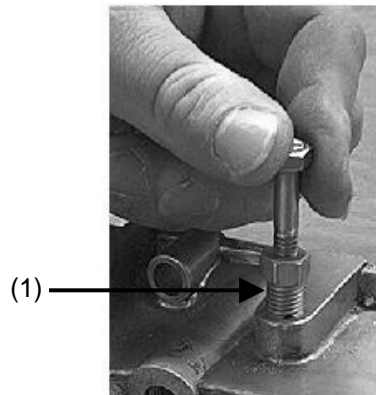

Figure 4-60. Gardsert™ flush with workpiece.
3. Turn hex nut onto cap screw (use a grade 8), follow by threading Gardsert™ (1) (Fig. 4-60) (Gardsert™ is listed as "Tool Kit, Screw Insert" in Appendix A) onto cap screw keeping cutting threads open. Make sure to align Gardsert™ flush with workpiece as shown in Fig. 4-60.